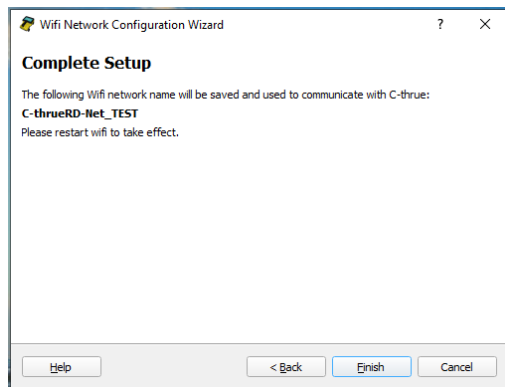

Fig. 98 – Complete Setup window
- 6) By clicking on **Next >** and **Finish** all the network changes will be applied (Fig. 98).